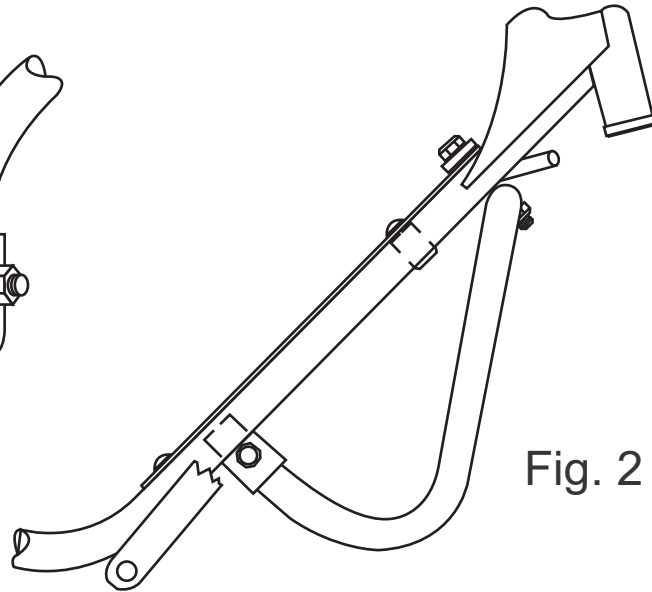

Fig. 2
6. Place flat clamp over frame tubes on panel. Insert bolt and fasten with lockwasher and nut. See fig. 2. Tighten securely.